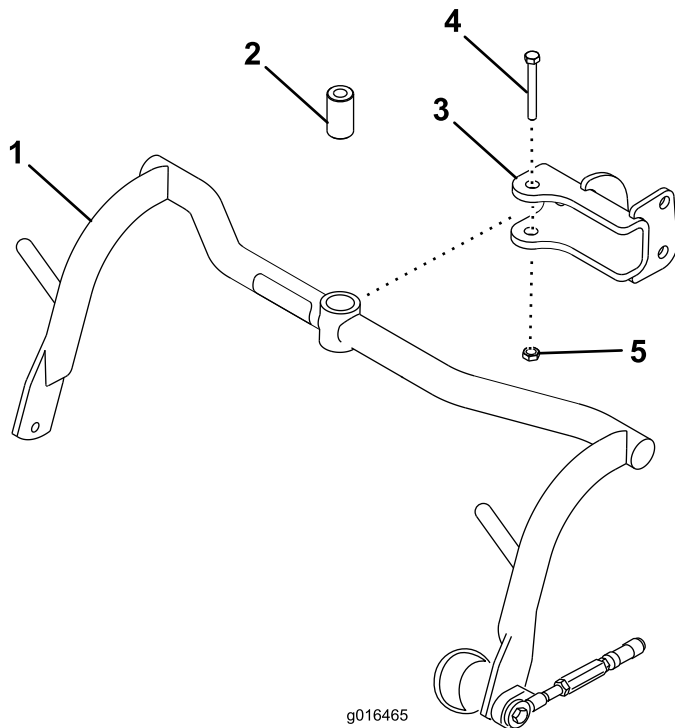

Figure 8
1. Mount a carrier frame assembly to each clevis with a spacer, 1/2 x 3-1/4 inch bolt and 1/2 inch locknut (Figure 8). Torque to 91–113 N-m (67–83 ft/lb).